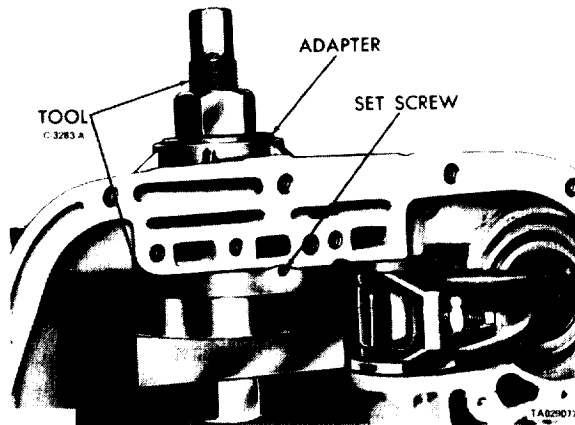
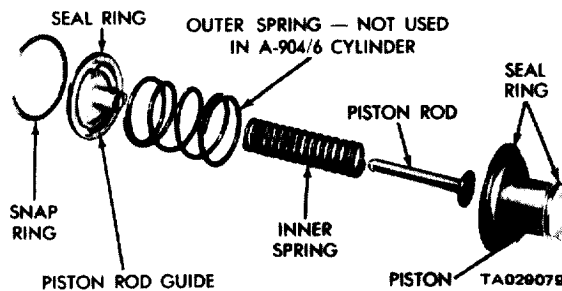

Figure 18-27. Installing Overrunning Clutch Cam.
Figure 18-28. Kickdown Servo (Front Band).
(3) Clean all burrs and chips from the cam area in the case.
(4) Place the spring retainer on the cam, making sure the retainer lugs snap firmly into the notches.
(5) Position the cam in the case with the cam serrations aligned with those in the case. Tap the cam evenly into the case, as far as possible, with a soft mallet.
(6) Install tool C-3863-A with adapter SP-5124 as shown in figure 18-27. Tighten the nut on the tool to seat the cam into the case. Make sure it is firmly bottomed, then install the cam retaining set screw. Stake the case around the set screw to prevent it from coming loose.
(7) Remove the cam installing tool. Install and tighten the support retaining screws to 140 in-lbs. Stake the case around the cam in twelve places with a blunt chisel.
b. *Inspection Procedures.* Refer to figure 18-28 or 18-29, depending upon which servo is being serviced.
d. Kickdown Servo. Refer to figures 18-28 or 18-29.
(1) Subassemble the kickdown servo as follows: